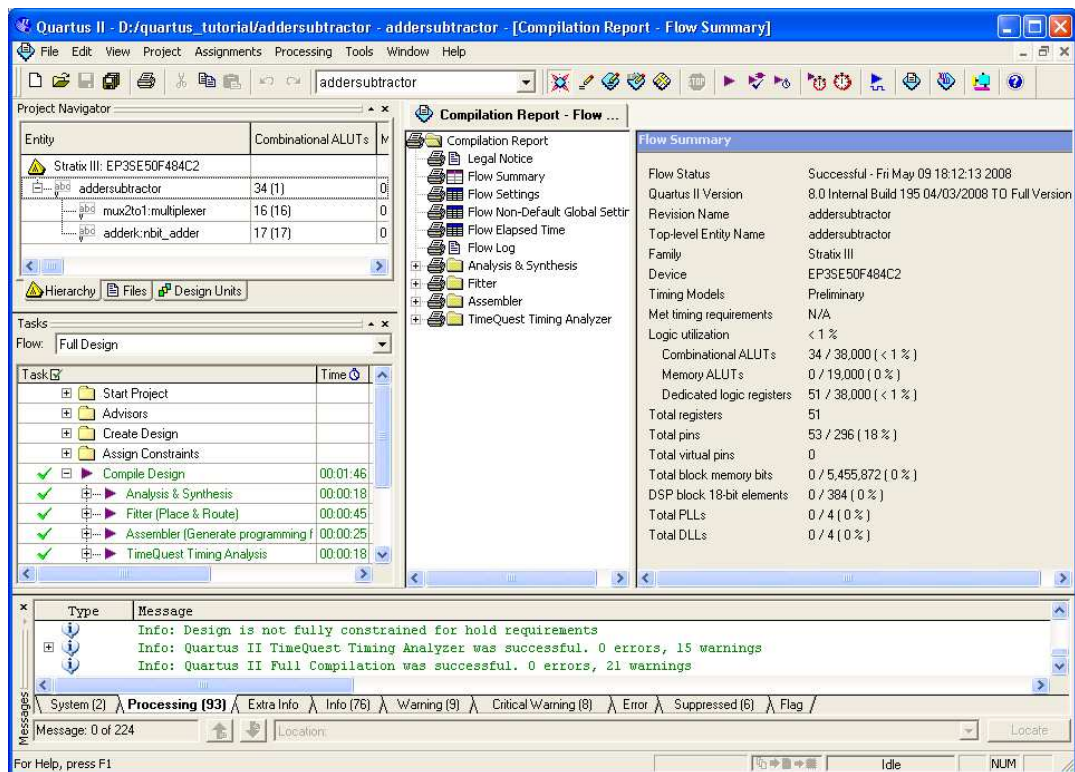

Figure 18: Display after a successful compilation.
1. Run the Compiler by selecting **Processing > Start Compilation**, or by using the toolbar icon . As the compilation moves through various stages, its progress is reported in the Tasks window on the left side. This window also provides an comprehensive interface to edit, start and monitor different stages of the compilation. Successful (or unsuccessful) compilation is indicated in a pop-up box. Acknowledge it by clicking OK, which leads to the Quartus® II display in Figure 18, in which we have expanded the Entity hierarchy in the top left corner to show all modules in the *addersubtractor* design. In the message window, at the bottom of Figure 18, various messages are displayed. In case of errors, there will be appropriate messages given.